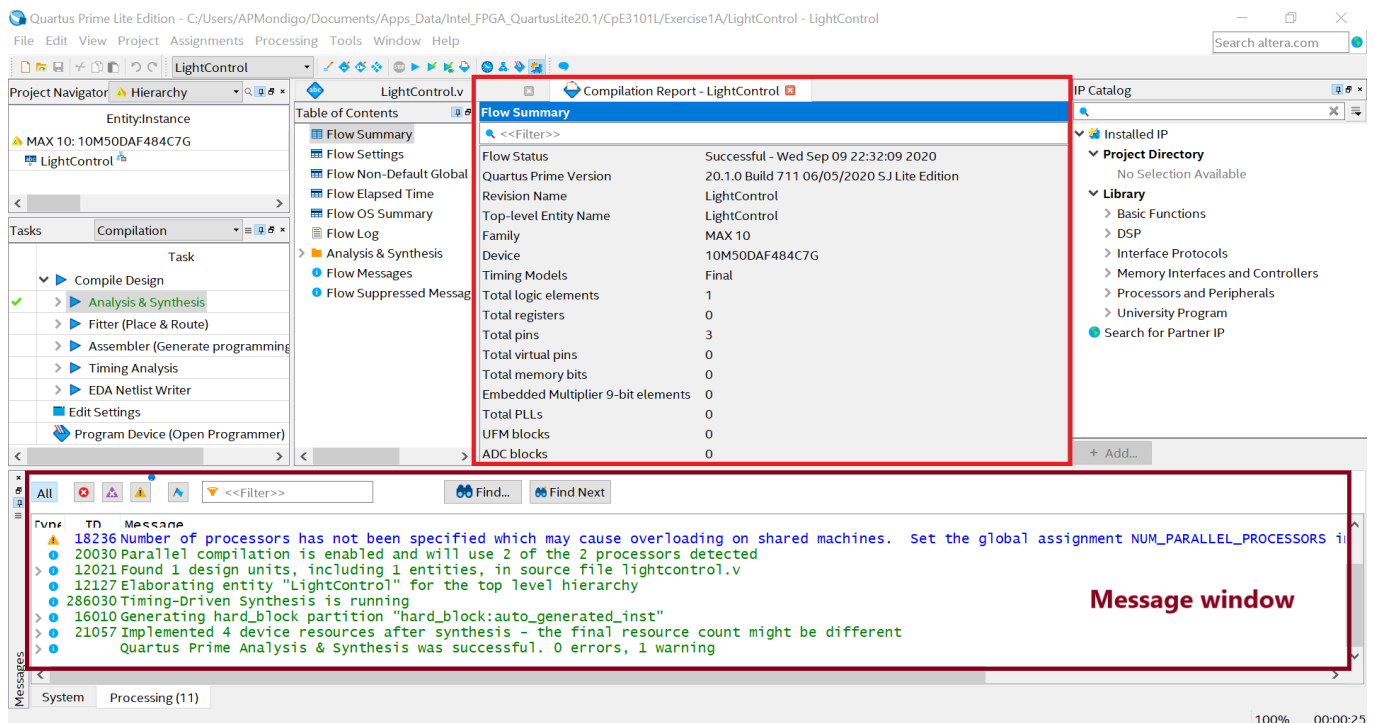

Figure 15. Display after Successful Analysis and Synthesis
- As synthesis is being done, its progress can be shown in the **Tasks** window at the left side. At the **Message** window at the bottom, various messages are displayed. In case of errors, appropriate messages will be shown here. Once analysis and synthesis are done (indicated by a green check mark), a **Compilation Report** is displayed. All these are shown in Figure 15.
- **Compilation Report for the Flow Summary**, showing the **entire Quartus Prime window** (such as in Figure 15)